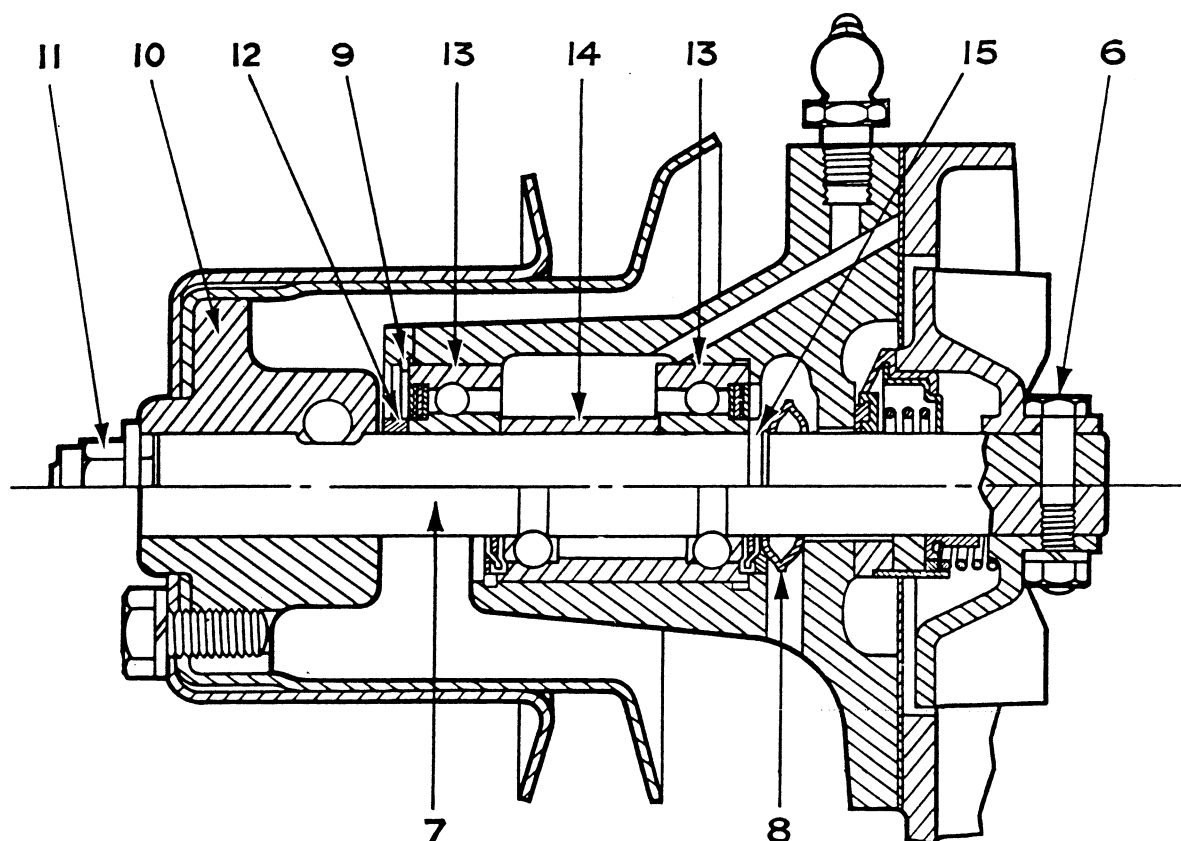
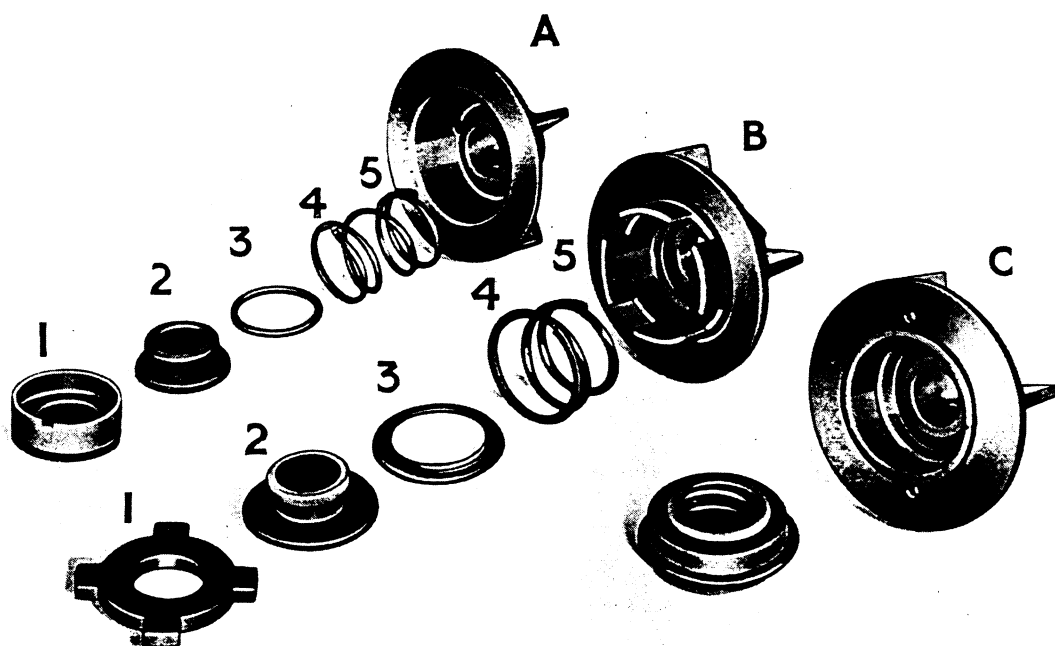

FIG. 7
FIG. 8
## BEARING AND IMPELLOR ASSEMBLY. Fig. 7.
A cross-sectional view of the assembly fitted to Tractors TE-A20 is shown in Fig. 7 from which a comparison can be made between earlier and later types as illustrated respectively below and above the drawing centre line. Fig. 8 shows three seal and impellor sub-assemblies which may be encountered during dismantling. Sub-assembly B is fitted to TE-20 pumps but impellers of certain TE-A20 pumps have been modified to take type B.
After removal of bearing housing assembly, proceed as follows, with reference to Fig. 7 :—
1. Remove small bolt (6) securing impellor on shaft and prise or twist off impellor levering behind vanes.
2. Remove seal assembly—See Fig. 8.
3. TE-A20—Remove pinch bolt from pulley hub clamp and tap out shaft to detach hub (10). On later type bearing assemblies, a self locking nut (11) must be removed from shaft end before withdrawal of clamp.
4. Tap out bearing and shaft assembly (7) with water thrower, (8) after removal of vent plug or circlip (9). The plug is
4. Replace seal and impellor assembly—See Fig. 8.